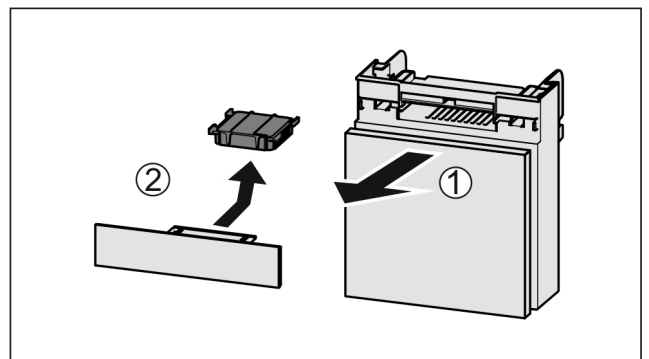

Fig. 176
- ▶ Pull out the compartment Fig. 176 (1).
- ▶ Remove the carbon filter Fig. 176 (2).